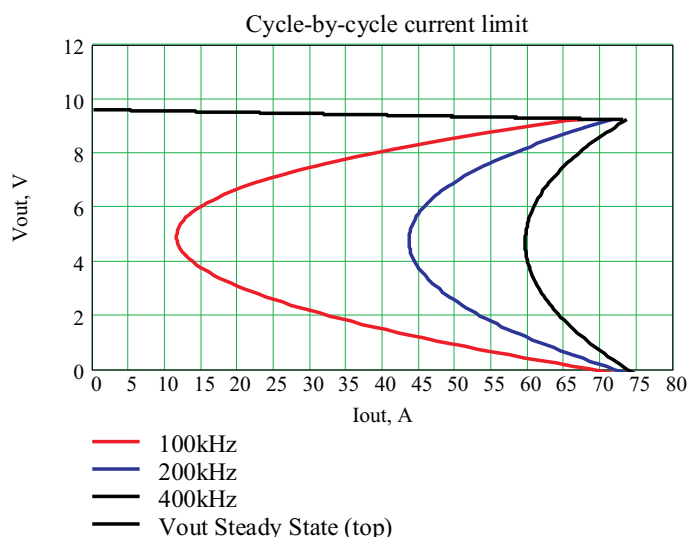

Figure 39. Output Voltage at Cycle-by-Cycle Current Limit
Figure 39 shows the output voltage as function of the average load current limited by the cycle-by-cycle current limit threshold after substituting (9) into (10). These plots are generated for the following conditions: $V_{IN} = 48\text{ V}$, $N_{TR} = 5$, $L_O = 0.1\text{ }\mu\text{H}$, $L_m = 75\text{ }\mu\text{H}$, $I_{O(lim)} = 73\text{ A}$, $R_{pr} = 25\text{ m}\Omega$ and $R_{SEC} = 4\text{ m}\Omega$ at $F_{SW} = 100\text{ kHz}$, 200 kHz and 400 kHz . This fold back type of behavior limits the start-up capability of unregulated IBC. One can see that at 100-kHz switching frequency and 0.5 duty cycle (i.e., $V_O \approx 5\text{ V}$), only about 11.5 A average current is available to charge the output capacitor while at 400 kHz , the charge current can be as high as 60 A . The plots in Figure 39 show the required average charge current reflected to the primary side of the converter with $N_{TR} = 5:1$ for different output capacitor values depending on the selected soft-start time, which do not count extra current drawn by the load itself. Therefore the significant output inductor current ripple not only can trip the peak current mode control current limit circuit to reduce the average output inductor current available to charge the output capacitor, but also can cause the hiccup or latch off of the converter to prevent it from starting at all. Increasing the current limit threshold to allow the normal start up of the converter can cause potential overstress if for some reason the load exceeds its nominal current during the steady state operation.